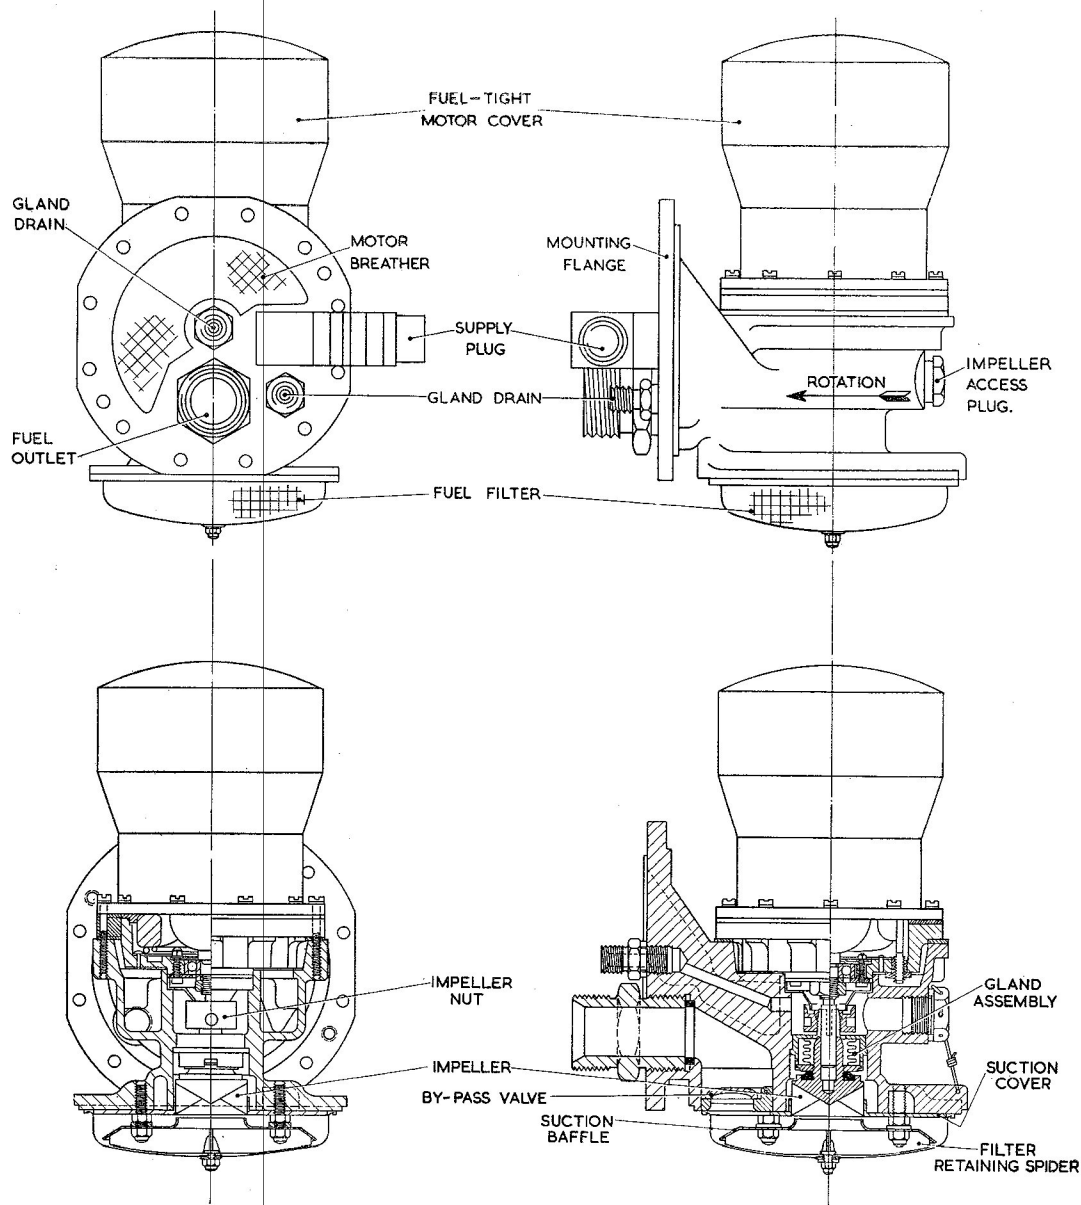

Fig. 1. General and part section view of FB 60 pump
6. Remove the filter at the base of the pump by unscrewing the securing nut in centre of the base and put the filter in a safe place so that it may, if undamaged, be used again. Undo the five nuts which secure the suction baffle cone (fig. 1) and remove the cone, taking care not to lose the nuts or the spacing washers which lie immediately behind the cone.